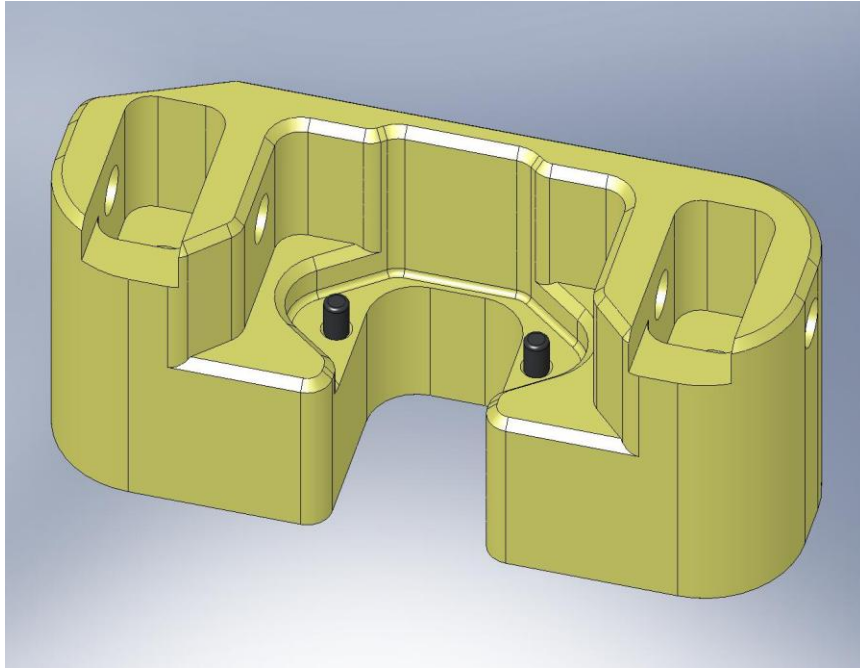

Figure 3.52. Press (2) dowel pins into Spring Pull-Down Cap.
- Insert Heli-Coils into (3) **Spring Pull-Down Caps** (D071305):
- Press (2) 1/4"x.875" dowel pins (McMaster-Carr #90145A541) into holes in pocket of each of (3) **Spring Pull-Down Caps**, as shown in Figure 3.52. The pins should stand .375" proud of the pocket's surface.